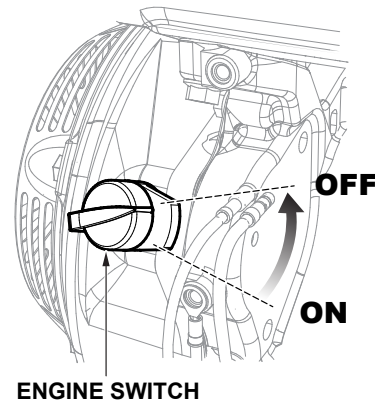

Figure 22. Engine ON/OFF Switch (OFF Position)
2. Place the engine ON/OFF switch (Figure 22) in the "**OFF**" position.